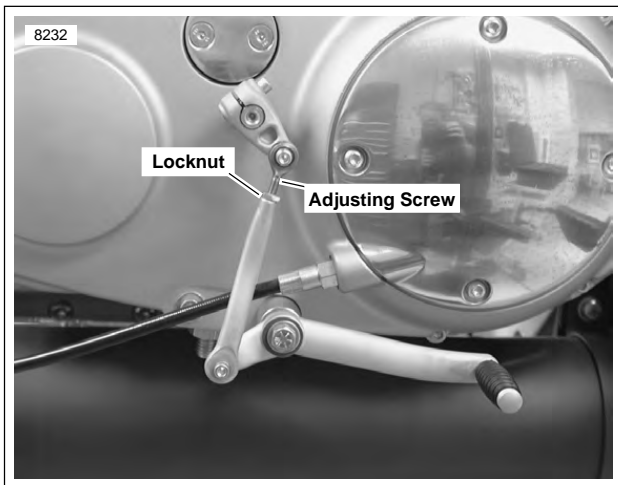

Figure 1-29. Primary Chain Adjustment
1. See Figure 1-29. Loosen locknut (1).
2. Turn adjusting screw (2):
3. Tighten locknut (1) to 20-25 ft-lbs (27-34 Nm)